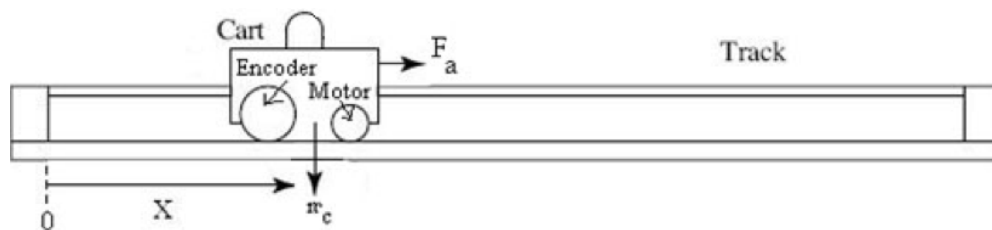

Figure 5: Free body diagram of the cart (ignoring friction)
Figure 5 shows the cart’s free body diagram. For simplicity, we will ignore the effects of friction. In the diagram,  $F_a$  is the input force exerted on the cart by the voltage applied to the motor,  $m_c$  is the mass of the cart. The encoder is used to keep track of the position of the cart on the track.
Using Figure 5 and basic Newtonian dynamics you can derive the equations governing the system.
Derive the following equation of motion for the cart system shown in Figure 5:
1. Using the free body diagram in Figure 5, apply Newton's second law to the cart.
2. Combine the motor dynamics, equations (1) - (4), to obtain the relationship between the input voltage  $V$  and the applied force  $F_a$ . Substitute this relationship into your equation from Step 1. This is the final model of your plant.